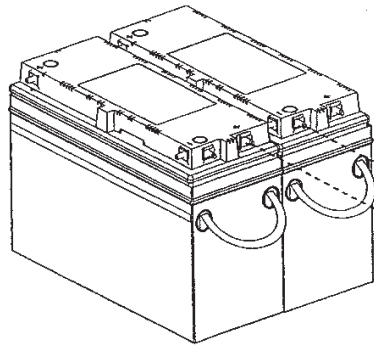

Figure 2:
The 12AVR-125L/LLP & 12AVR-145L/LLP batteries are provided with inter-battery bus bars to connect batteries in series to create battery strings. One bus bar is provided with the accessory kit and comes complete with hardware to create various size strings of batteries as specified for the application (e.g., 24V or 48 V battery strings). (See Figure 2.)
6. Using 1/4-20 hardware and inter-battery bus bar provided, connect batteries into strings as determined in Step 1. (See Figure 2), Torque connections to 60 in-lbs.